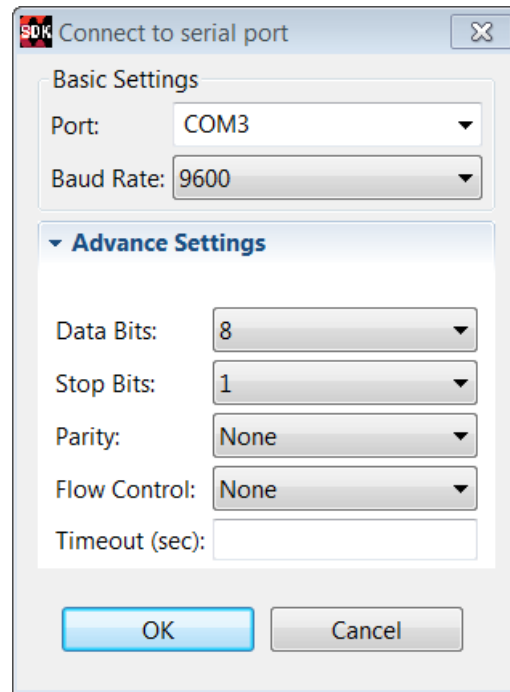

Figure 120: Terminal Settings
8. Use the settings shown in Figure 120 for the KC705 board and click **OK**.